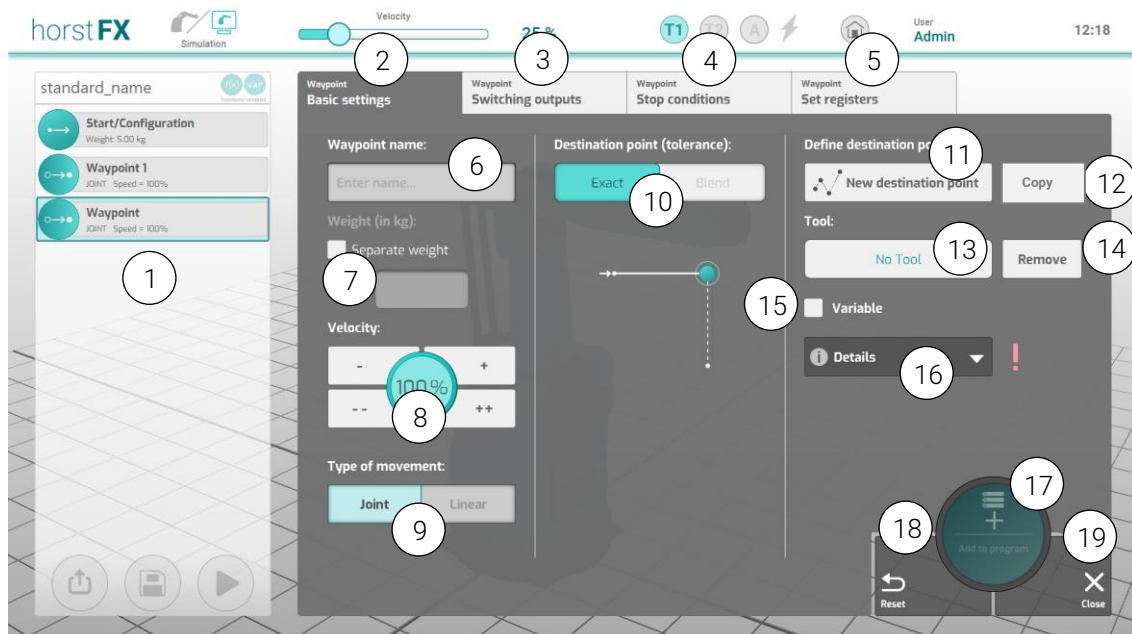

Fig. 6-7: Action window – Waypoint – Basic settings
The only difference between the **Relative waypoint action** and the **Waypoint action** is the **Define destination** or **Define relative destination** menu. The latter is activated by pressing the **New rel. dest. point** (1) button (compare with **New destination** button, Fig. 6-7).